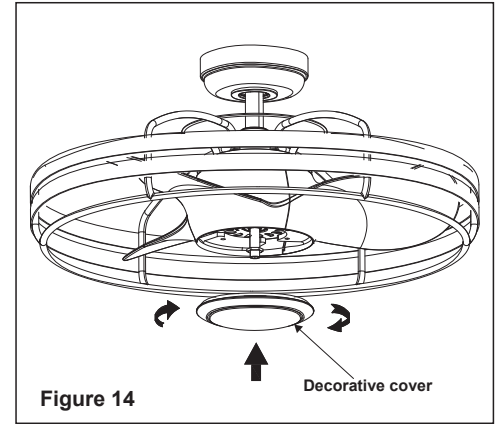

Figure 14
**Step 4.** Secure the decorative cover to fan motor assembly by twisting in a clockwise direction. Do not over-tighten. (Figure 14)